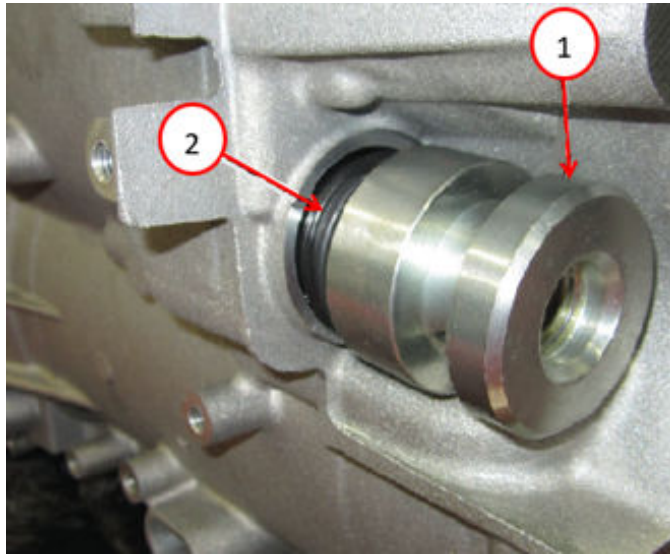

Fig. 42
66. Using Guide Sleeve 10377, carefully install the electrical harness guide sleeve into the transmission case Fig. 42.